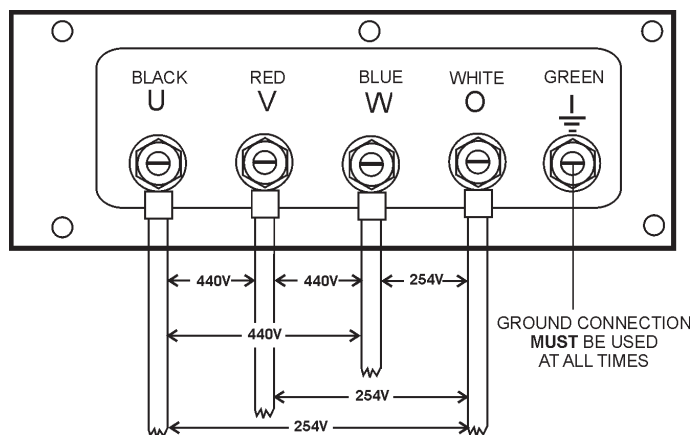

Figure 28. Output Terminal Lugs 1Ø-440/254V Connections
2. Connect the load wires to the **Output Terminal Lugs** as shown in Figure 28.